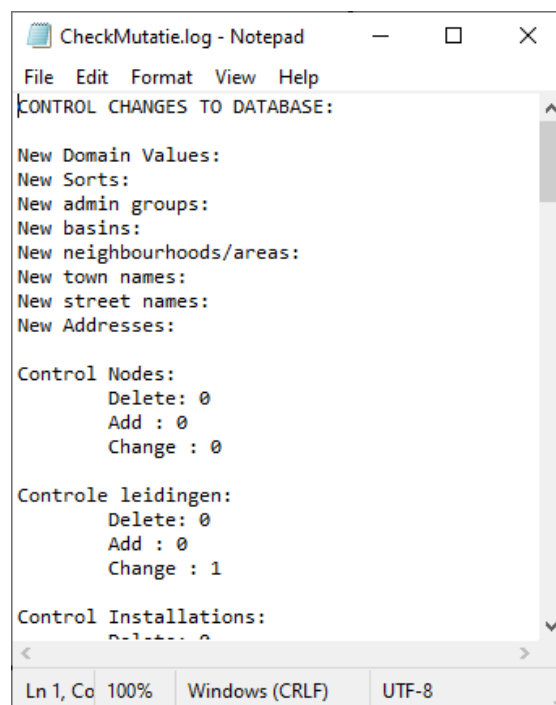

Figure 5.4.4
3. The results of the mutation to database check are displayed via notepad, as depicted in figure 5.4.4.